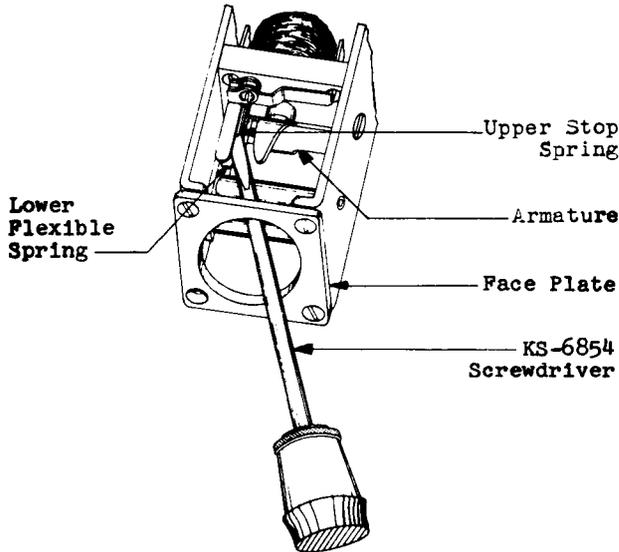

Fig. 8 - Method of Adjusting for Contact Separation and Contact Follow
(1) The adjustments for contact separation and contact follow may be made with the relay mounted. Make these adjustments with the faceplate in position, unless more room is required, in which case, remove the faceplate. Use the KS-6854 screwdriver to remove faceplate screws.
(2) Contact Separation: To increase the contact separation or to decrease the contact follow, apply the blade of the screwdriver between the upper stop spring and the lower flexible contact spring as shown in Fig. 8 and exert a slight upward pressure on the screwdriver. To decrease the contact separation or to increase the contact follow, apply the blade of the screwdriver near the base of the upper flexible contact spring and exert a downward pressure, or apply the blade near the base of the lower stop spring and exert an upward pressure. When readjusting for contact separation, it is advisable to make this separation as near the minimum value as is consistent with meeting all the other requirements.
(3) Contact Follow: If the contact follow is insufficient, it may be due to excessive contact separation; in which case, increase the follow or decrease the separation as outlined in (2). The contact follow will be satisfactory when, with the armature manually operated to its fully operated position, there is a perceptible clearance between the upper stop spring and the upper flexible contact spring at the contact end.